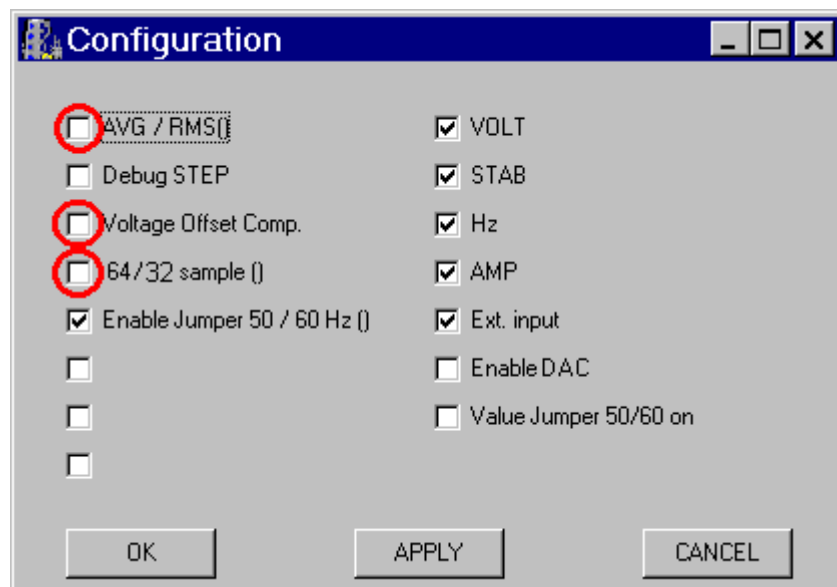

Fig. 3: Set up in the "configuration" menu for a correct IF321 usage
- 3.5. By means of the **Configuration** button it is possible to open the menu shown in fig.3
- 3.6. Remove the selection from the **AVG/RMS()** box, like it is indicated in Fig. 3 (recommended)⁽³⁾
- 3.7. Remove the selection from the **Voltage Offset Comp.** box, like it is indicated in Fig. 3 (mandatory)
- 3.8. Remove the selection from the **64/32 sample ()** box, like it is indicated in Fig. 3 (mandatory)